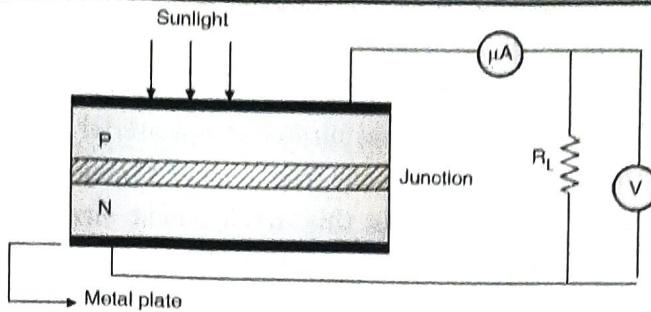

Fig. 3.10.4 : (a) Working of a solar cell
- For both mono and multicrystalline Si, a semiconductor homojunction is formed by diffusing phosphorus (an n-type dopant) into the top surface of the boron doped (p-type) Si wafer. Construction of the solar cell is as shown in Fig. 3.10.4(a).